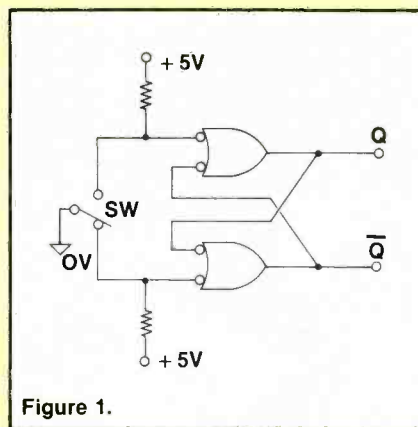

Figure 1.
1. For the circuit in Figure 1, +5V is *logic 1* and 0V is *logic 0*. When the switch is in the position shown, the output at Q is
1. B. An OR gate with inverted inputs is equivalent to a NAND gate. So, the circuit of Figure 1 behaves like a NAND flip flop.